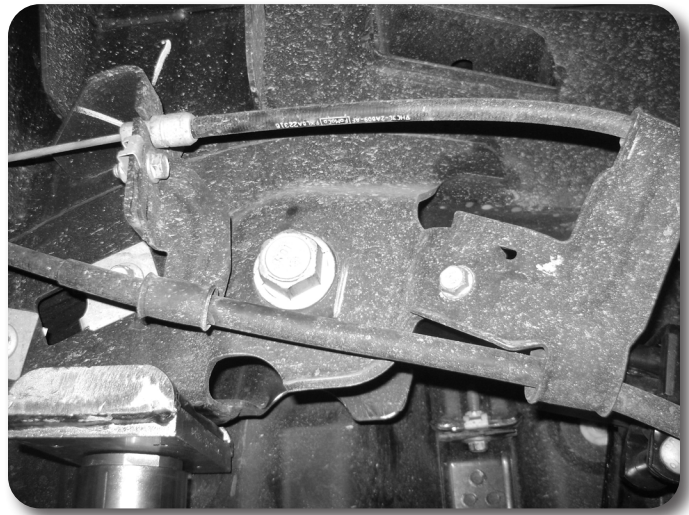

Figure 25
22. Remove cables from the rear bracket that attaches just behind the front leaf spring mount, remove bracket, it will not be reinstalled. Figure 25